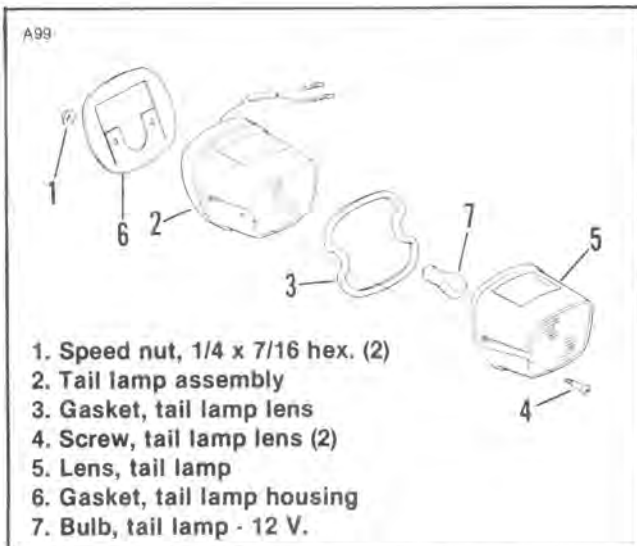

Figure 2-1. Sidecar Tail lamp
1. See Figure 2-1.
2. Remove the two tail lamp lens screws (4).
3. Remove lens (5). Press bulb inward, turn the bulb 1/4 turn counterclockwise and remove the bulb.
5. Replace the bulb (7) and gasket (3) if required.
6. Reinstall lens (5) and screws (4).